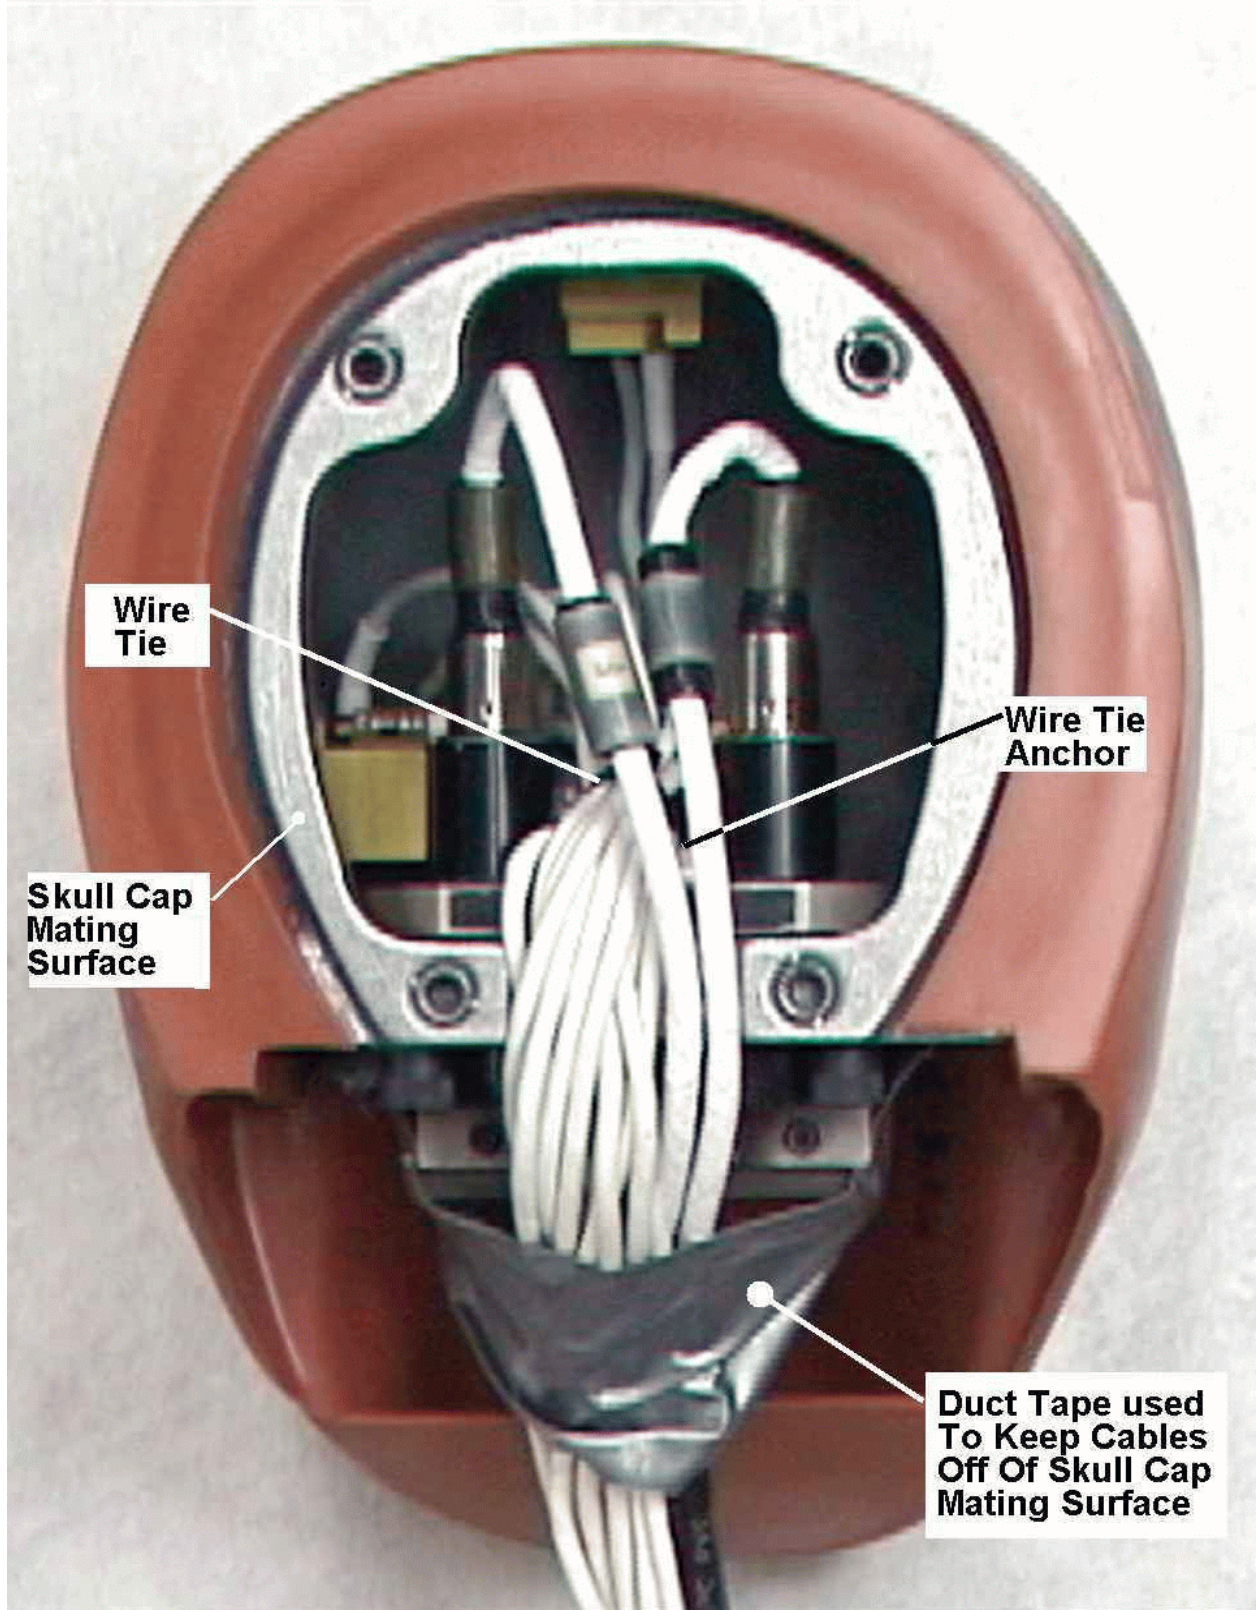

Figure 3.11 -- Cable routing
11. Install the head skin (Figure 3.11).
12. Allowing some strain relief in the head, route the cables in a flat bundle in the recess at the rear base of the head so they are not pinched when installing the skull cap. Use the wire tie anchor and wire ties as required (Figure 3.11). Duct tape can be temporarily used to keep the wires off the skull cap mating surface (Figure 3.11).